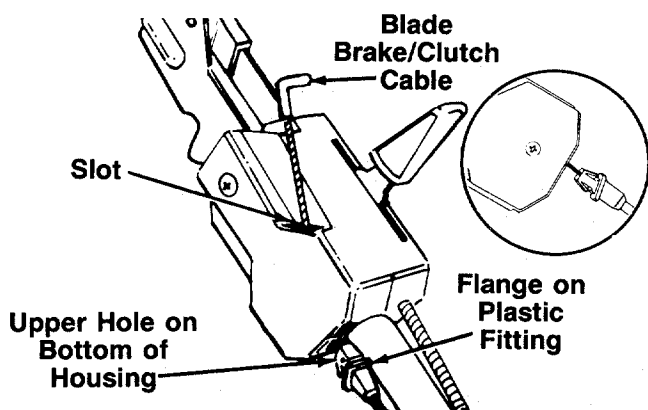

FIGURE 3.
1. Route the blade brake/clutch cable under the lower handle and inside the handle mounting bracket. Place end of cable into the upper hole on the bottom of the control housing, and through the slot on the side of the housing as shown. The angle of the plastic flange must be positioned downward as shown in figure 3. Be careful not to bend or kink the cable at any time.